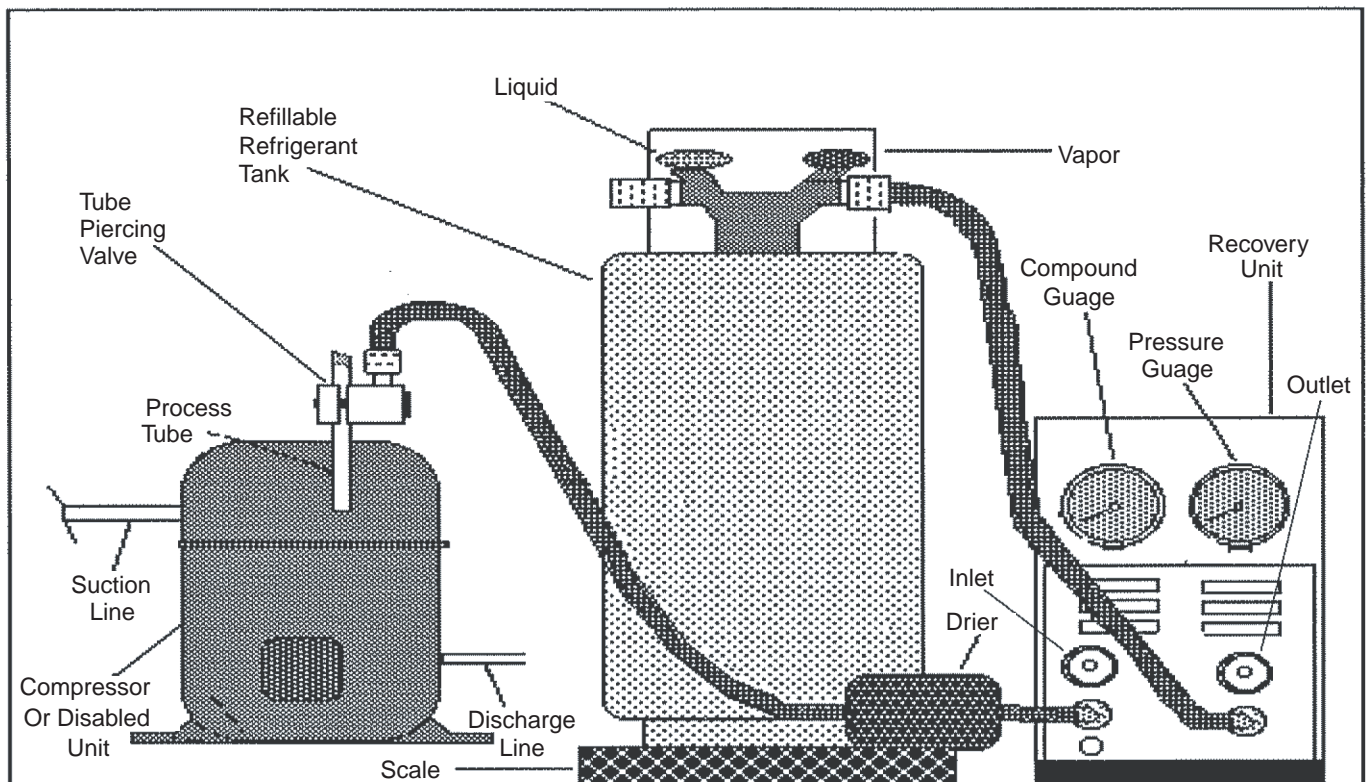

Figure 4. Installation of Recovery Equipment
2. Attach an approved self tapping line tap valve to the process tube. Connect refrigerant recovery system to tap valve. Turn on recovery system, open the line tap valve, and allow refrigerant to flow into an approved tank. (See Figure 4)